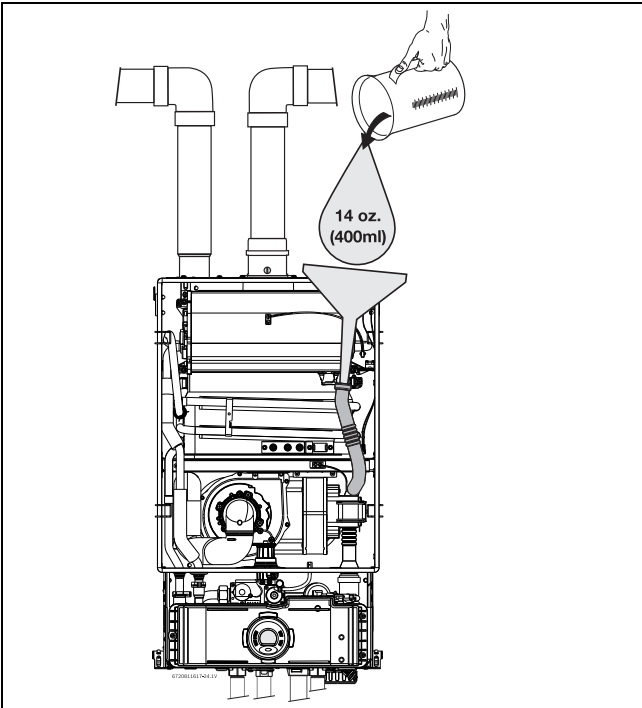

Fig. 40 Filling the condensate trap after installation
- Fill the condensate trap by pouring approx. 14 oz. (400ml) of water into the top of the drain tube. To avoid damage to the appliance use a funnel in this operation, see fig. 40, page 30.